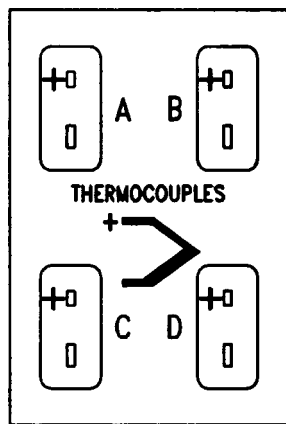

FIG.3 THERMOCOUPLE MODULE
- ❶ 3-pin IEC plug for the external power supply (see Section 2.3)
- ❷ 9-pin 'D' socket for analog output and the high and low alarm output signals
- ❸ 25-pin 'D' socket for communications to a printer or with a personal computer
- ❹ Module 1 position
- ❺ Module 2 position
- ❻ Module 3 position
**Thermocouple Module — see Fig.3**